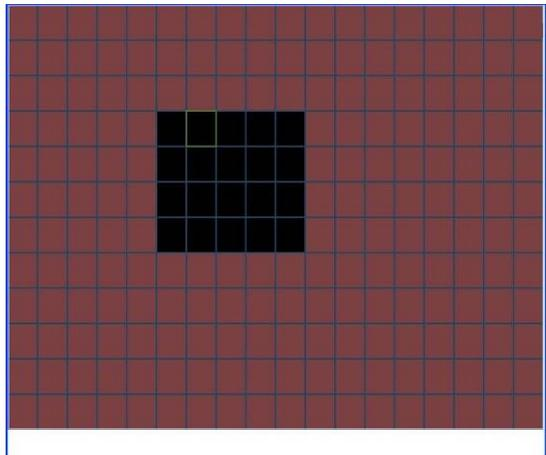

Figure 4-17
- Region: Click select button, the interface is shown as in Figure 4-17.Here you can set motion detection zone. There are 396(PAL)/330(NTSC) small zones.
In Figure 4-17, you can left click mouse and then drag it to set a region for motion detection.